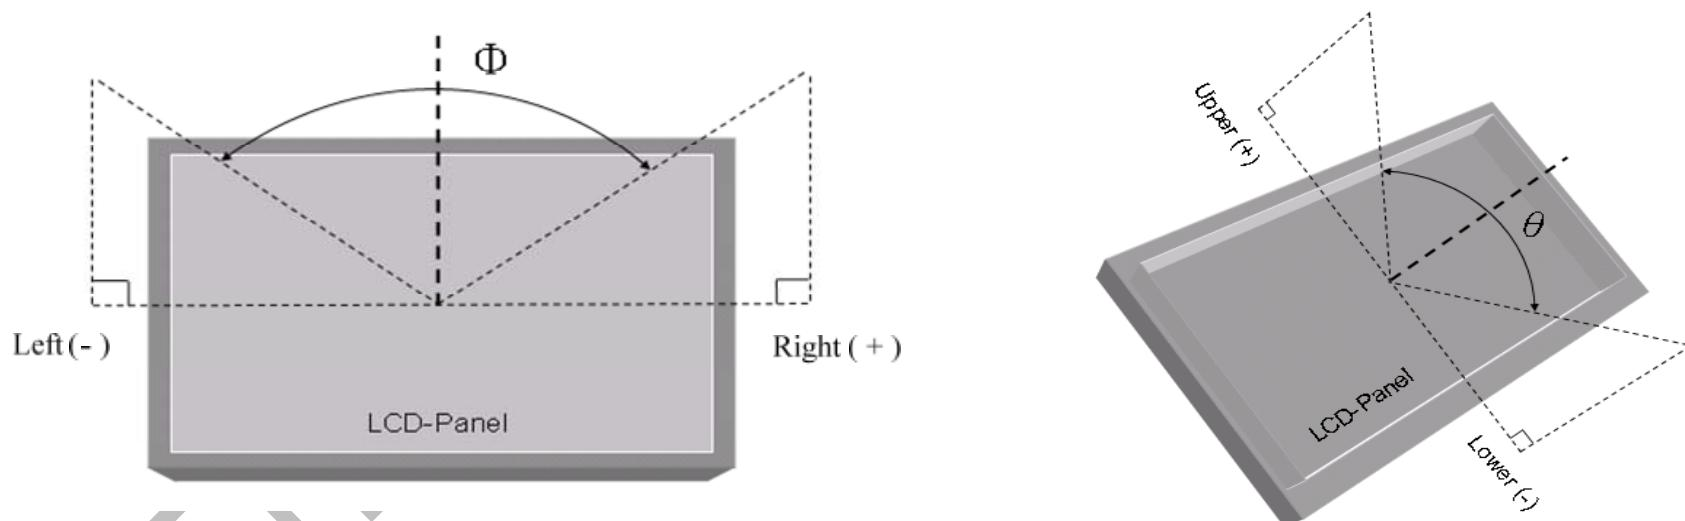

Fig.8-2 Definition of Viewing Angle
*4) Definition of Viewing Angle(θ, ψ),refer to Fig.8-2 as below :